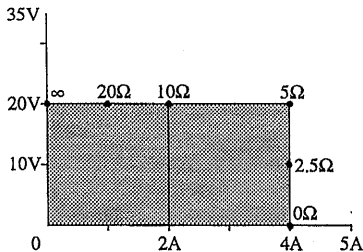

Fig. 2-5 Constant voltage (CV) operation
As an example, we assume that PAN35-10A is used to apply 20 V to a $10\ \Omega$ load under constant voltage (CV) operation. Fig. 2-5 shows operation under this condition.